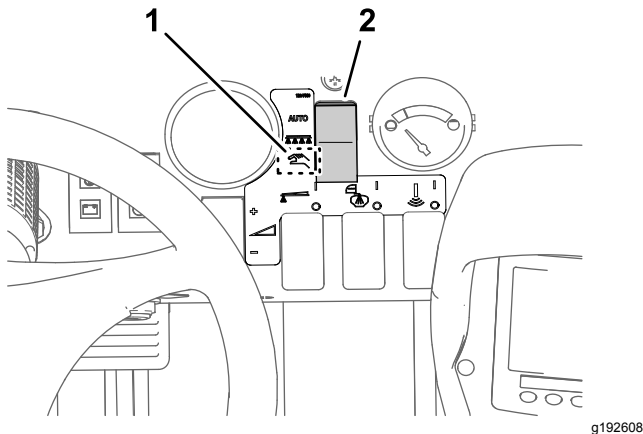

Figure 32
2. Set the sprayer mode button to the Manual Mode (Figure 32).